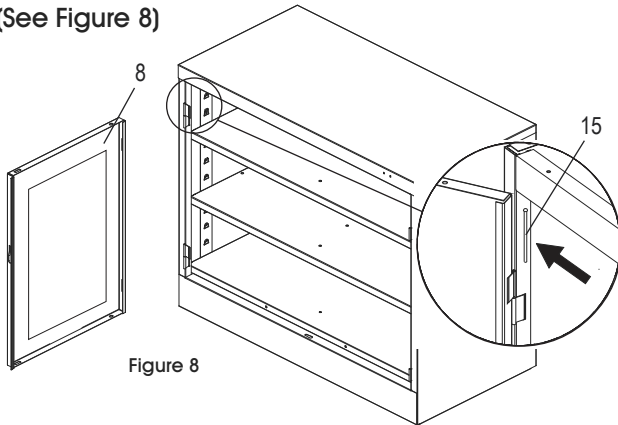

Figure 8
- Attach the left door (8) to unit by placing the door on the hinges, aligning the hinge holes, dropping the hinge pins (15) into the slots, then placing the flat end of a screwdriver on the hinge pins and tapping them in with a hammer. (See Figure 8)